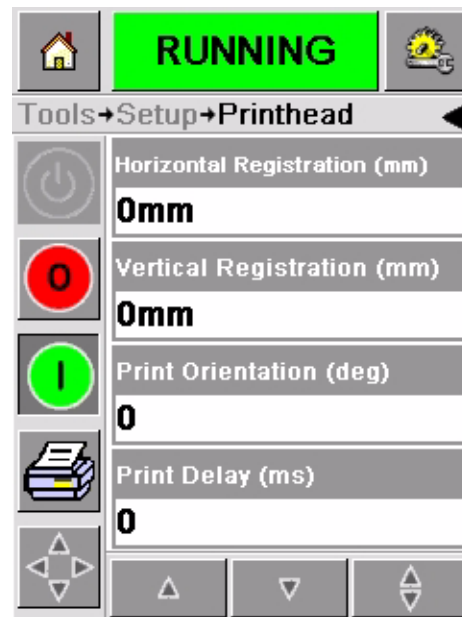
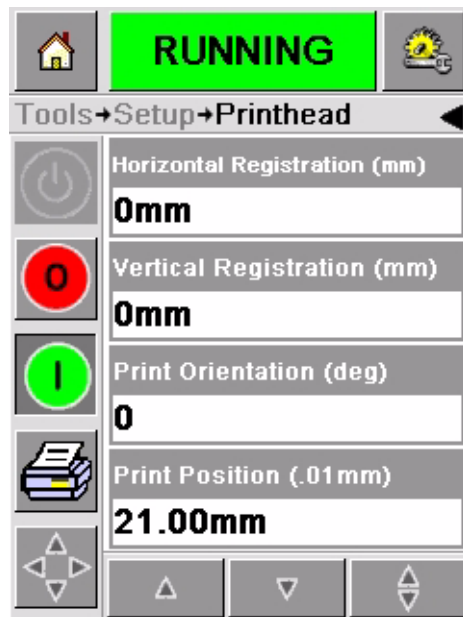

Figure 4-14: Printhead Setup Page for Intermittent Motion Applications
Figure 4-15: Printhead Setup Page for Continuous Motion Applications
Figure 4-14 shows the printhead setup page for printers that have been installed to work on an intermittent motion packaging machine (prints only when the target material is stationary).
Figure 4-15 on page 4-13 shows the printhead setup page for printers that have been installed to work on a continuous motion packaging machine (prints while the target material is moving).
- 3 Touch the Printhead button to open the printhead setup page (Figure 4-14 on page 4-12 and Figure 4-15).